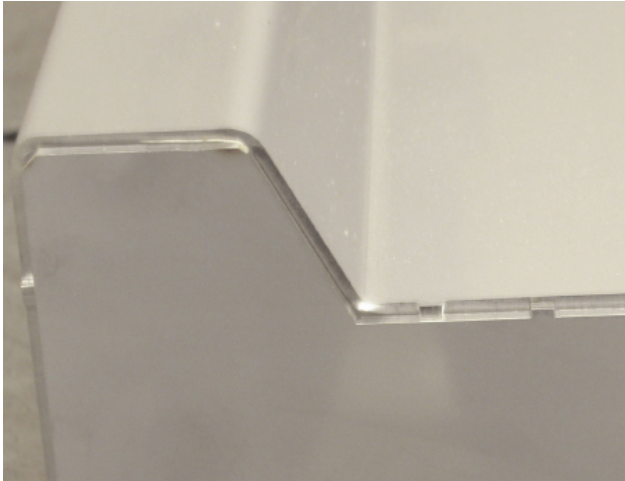

Fig. 4.6
- The tab joint shown below is recommended for welding corner constructions. (Fig. 4.6)